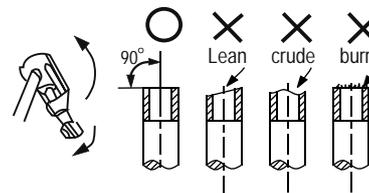

Fig.7-5
- Cut pipe using a pipe cutter. (Refer to Fig.7-5)